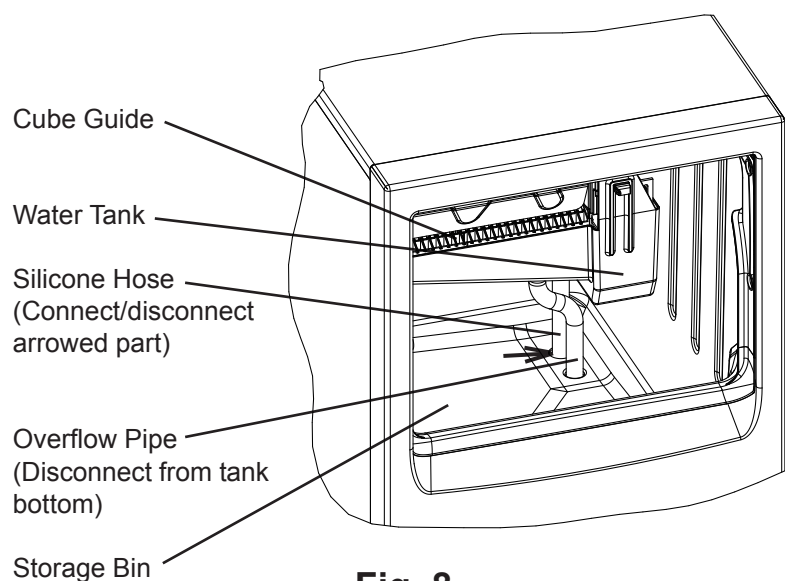

Fig. 8
- 6) Disconnect the Silicone Hose to drain the water. See Fig. 8.
- 4) Disconnect the Silicone Hose to drain the water. See Fig. 8. Reconnect the Silicone Hose back in its correct position after all of the water has drained.
- 5) Disconnect the Silicone Hose to drain the water from the Water Tank. Reconnect the Silicone Hose back in its correct position after all of the water has drained. See Fig. 8.